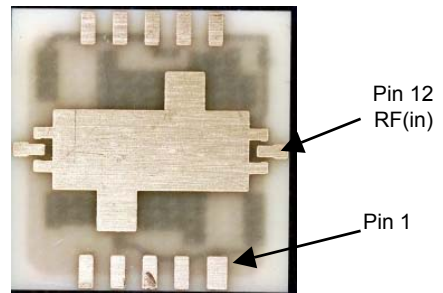

Figure 2: Bottom View [TGA8652-EPU]
3. Manually place a TGA8652-EPU on the motherboard with correct orientation and good alignment. The alignment can be determined manually by centering the package on the motherboard. The RF traces (pin 6 and pin 12) are located along the center horizontal axis of the package. DC traces pin 3 and pin 9 are located along the center vertical axis of the package. (Fig. 2)